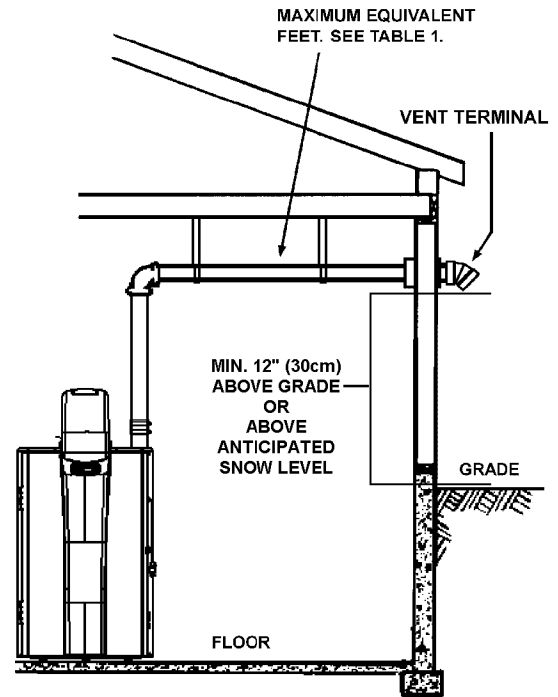
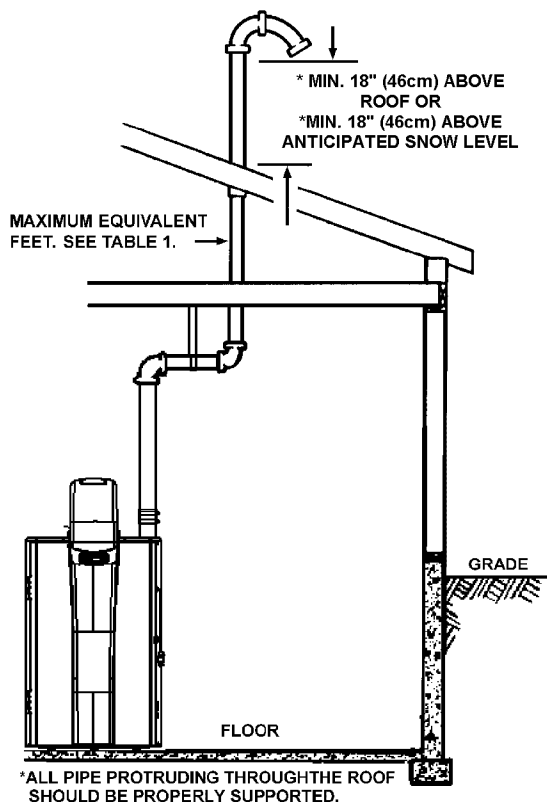

FIGURE 24
FIGURE 27
The first step is to determine where the vent pipe will terminate (see Figures 24, 27 & 31). The vent may terminate through a sidewall as shown in Figure 24 or through the roof as shown in Figure 27.
- Vent Termination must extend a minimum of 18 in. (46cm) above roof or 18 in. (46cm) above the anticipated snow level to prevent blockage of the vent termination, as shown in Figures 24 and 27.